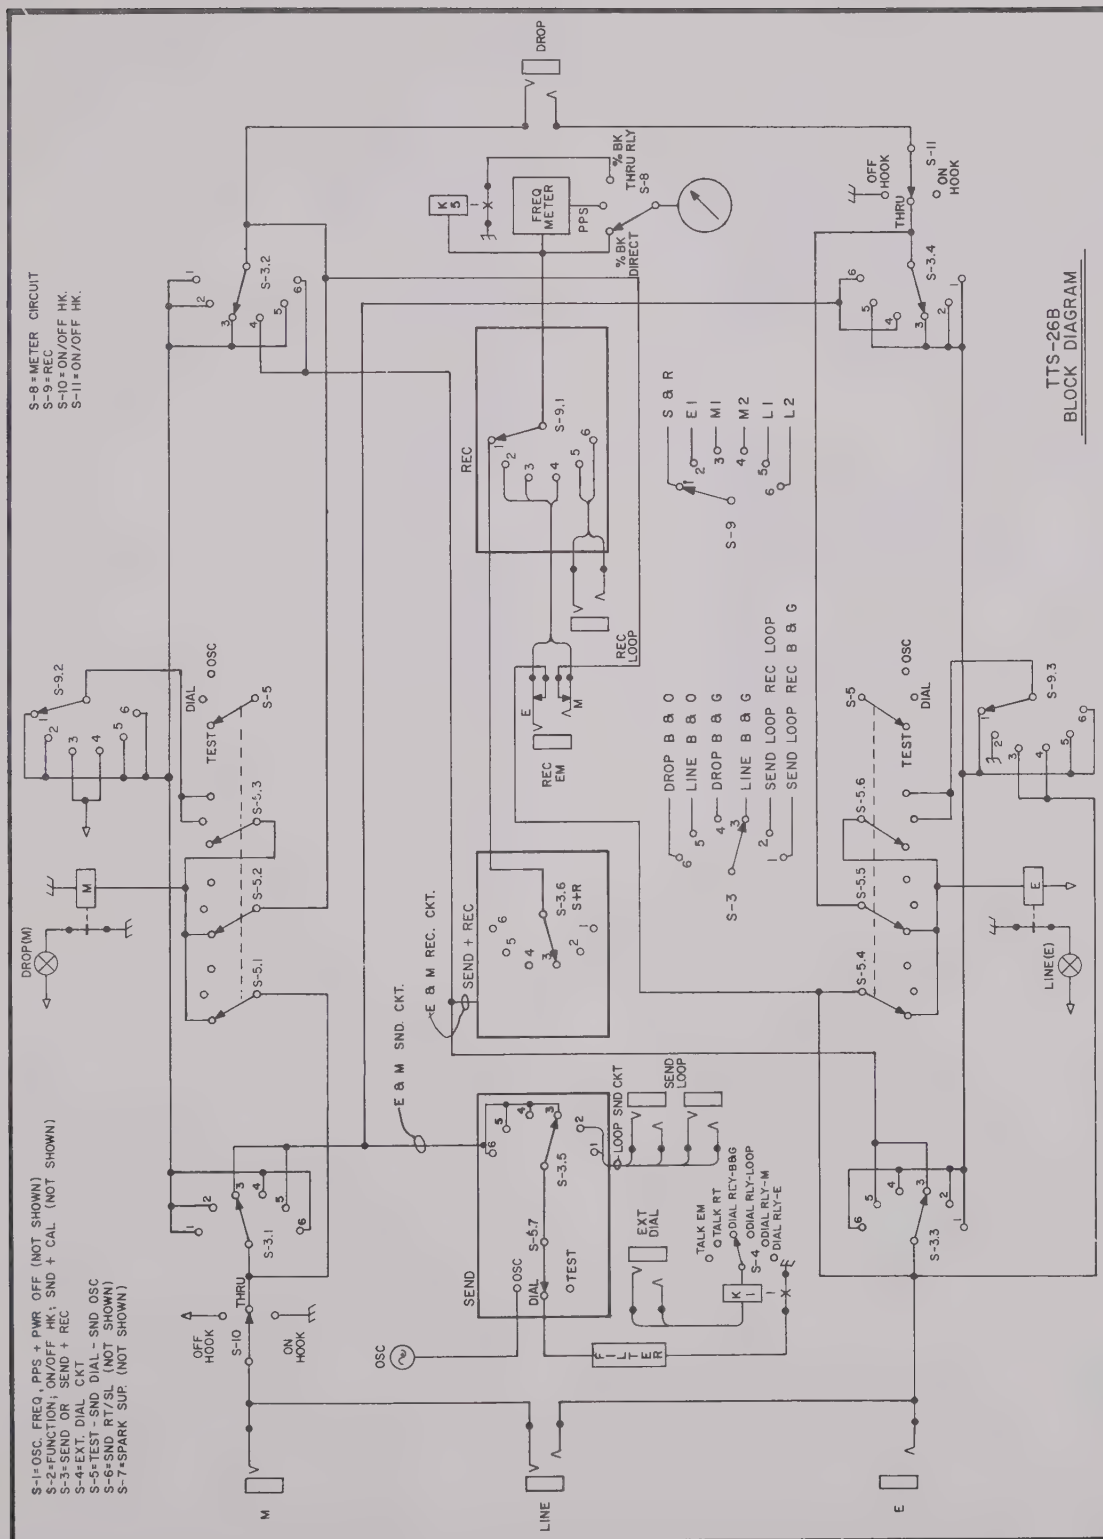

Figure 4-1 TTS 26B Block Diagram
4.2 A block diagram of the set is shown in fig. 4-1 and the schematic diagram of the instrument is shown in fig. 4-2. The circuits can be divided into two sections - the receive or measuring section, and the pulse send section. A detailed description of each section is presented below.